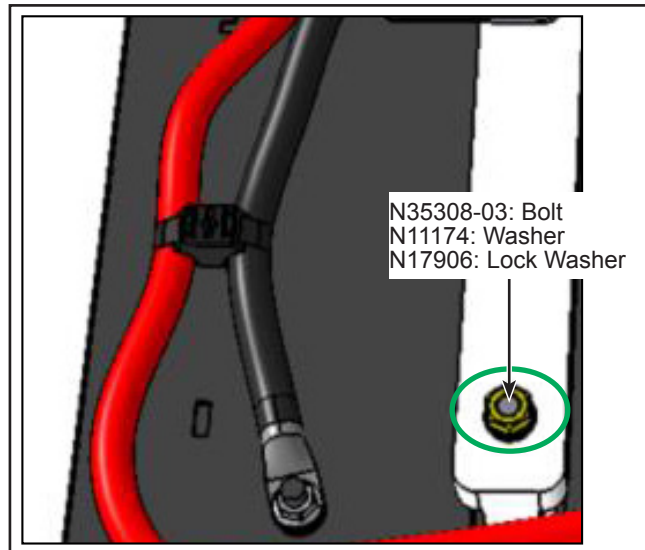

Figure 7 - Typical Installation of Hold-down Bar Bolt and its Washers
- 1.18. Install the retained hold-down bar bolt (N35308-03) with washers (N17906 and N11174) (see Figure 7). Tighten and torque as per recommendation.